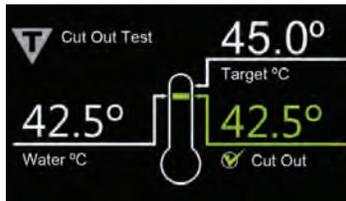

Figure 53 – Cut out test pass
3. The controller will cutout between 42.5° C and 45° C (Figure 53).